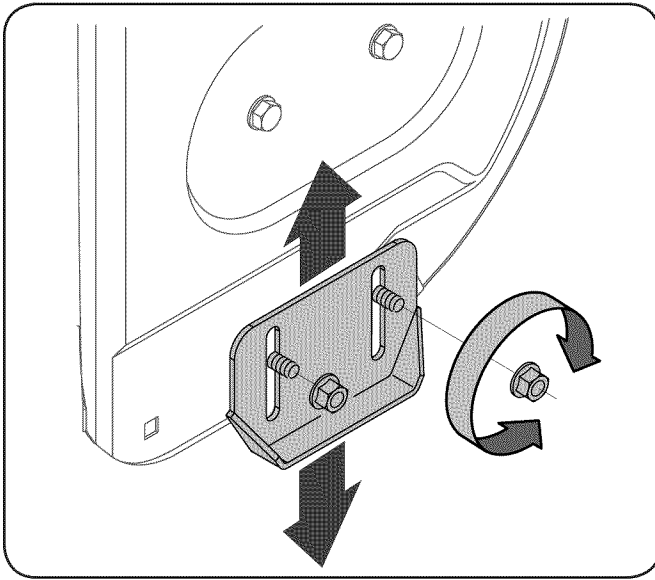

Figure 3-7
1. Loosen the four hex nuts (two on each side) and carriage bolts. Move skid shoes to desired position. See Fig. 3-7.